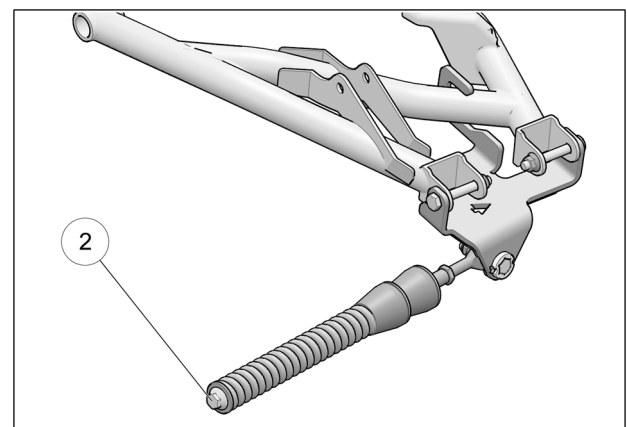

Fig. 11
- Verify that spring assembly bolt (2) is tightened to the recommended torque specification: 75 N•m [55 lb•ft]. Refer to Fig. 11